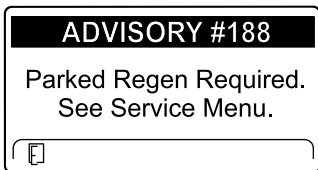

Figure 54
- Parked regeneration required ADVISORY #188 (Figure 54)